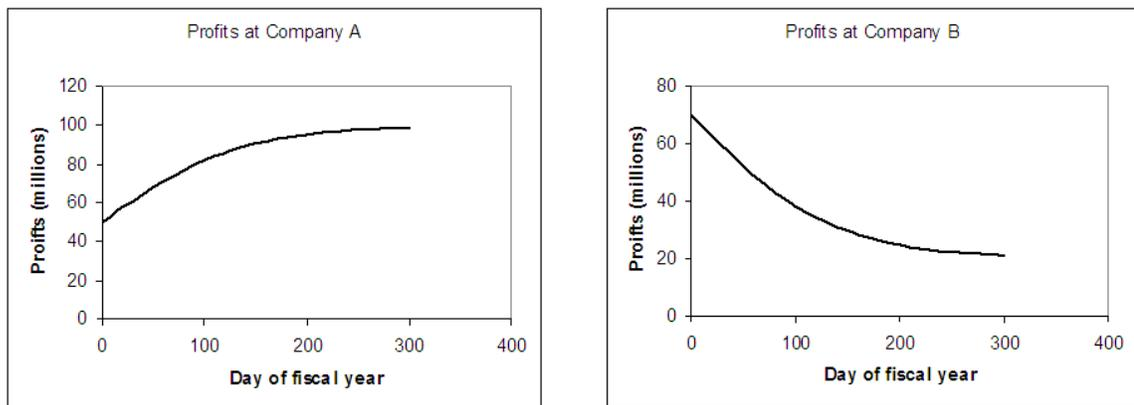

Figure 14.12: Profits over a year at two companies. Which is doing better?
14.5. Consider the profit graphs of each of the two companies shown in figure 14.12 from two different perspectives: the managers of the company (who want to keep their jobs) and the shareholders in the company (who want to make more money). For each graph, consider everything: the value of the function plotted on the graph, the rate of change of that function and the concavity (rate of change of the rate of change). Answer the following questions: